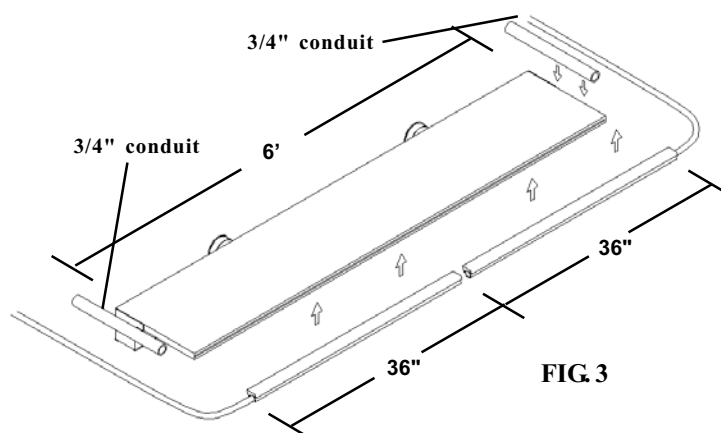

FIG. 3
2. When using multiple light bars to light waterfalls longer than 48", install two 3/4" conduits, one on each end of two waterfalls (see Fig. 3). You will use one standard Lightbar and one Reversed Lightbar.